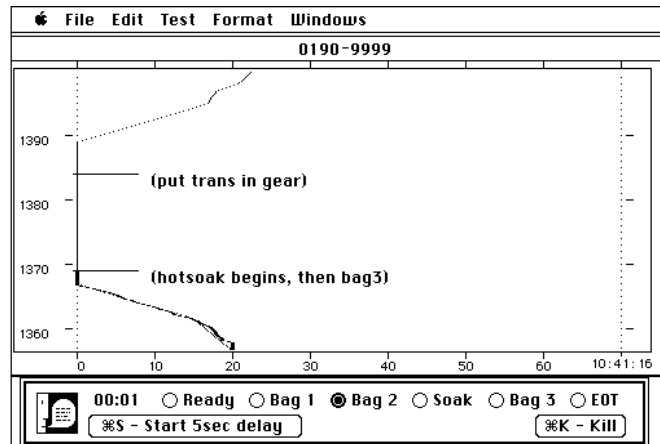

Figure 18
- 416 When the engine stops running, press <Command-S>. Five seconds later, the sampling will automatically stop and the soak indicator on the VDA screen will light. See Figure 18. The VDA will automatically reset to the beginning of the next driving schedule.